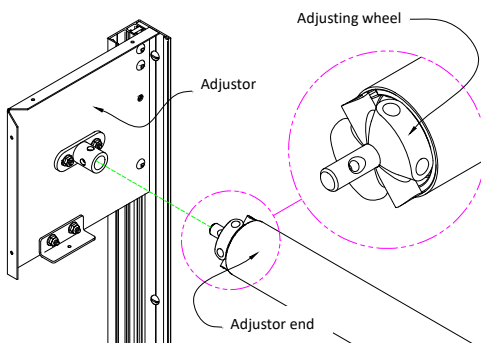

**Figure 2**
**Step 3:** Install mounting members; refer to Figure 2. Two mounting members are supplied, one right hand and one left hand. Figure 2 shows the three standard types of mounting, starting from the left: face of wall (FOW), between jambs (BJ) and between jambs (BJ) with back-up tube. Place left mounting member at desired location on the jamb, plumb and mark jamb at fastener locations.
Remove member; drill and prepare holes for wall fasteners. Place member back on jamb, lining up holes in member to those in the jamb, and install wall fasteners tightening them snugly. Measure the DBG from a point on left mounting member as shown in Figure 2 to the same point at which right mounting member will be located and make a reference mark.